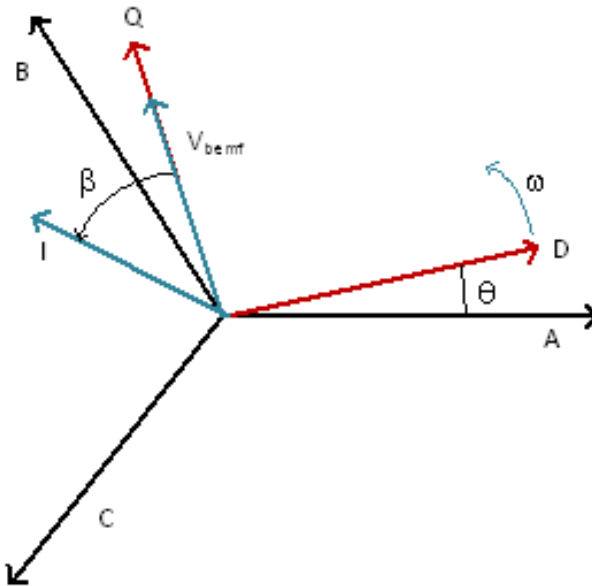

Figure 3. Park Transform with angle definitions for θ and β
One may notice the absence of the 3/2 factor in (7) and (8), which is usually present in the PMSM torque equation when using non-orthonormal transforms. This is, again, because this model uses the orthonormal DQ transform. Figure 3 explains the principle of the Park transform. Considering fixed ABC referential with all quantities (V_{bemf} motor current I) rotating at the electric frequency, if we observe these quantities in a DQ frame turning at the same speed we can see that the motor quantities will be constant.
This is easy to see for the Back-EMF voltage V_{bemf} that directly follows the Q-axis (because the magnet flux is on the D-axis by definition). In Figure 3, I leads and the Q-axis by an angle called (beta). The modulus of the vector I is called I_{amp} . In the figure below, is the rotor angle, aligned with the D-axis.